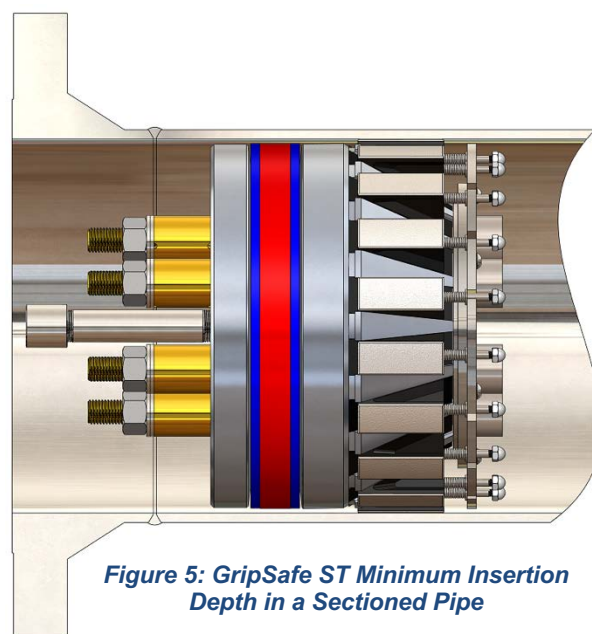

Figure 5: GripSafe ST Minimum Insertion Depth in a Sectioned Pipe
6.2. When inserting the GripSafe ST Plug into the pipe, insert **Spring Plate Hub(21)** side first, see *Figure 5*.
- When testing a weld neck flange weld, the **Bottom Compression Plates(12)**, must be inserted past the weld droop and the end of the **Vent Port(10)**, must be at least 1" away from the face of the weld neck flange, see *Figure 5*.